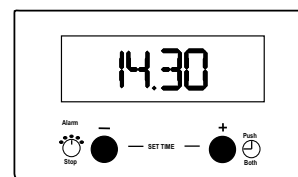

Fig.4
Within 5 seconds press and hold either button (1) to decrease or button (2) to increase the time until the correct time of day on the 24 hour clock is reached, e.g. 14.30. See Fig. 4.